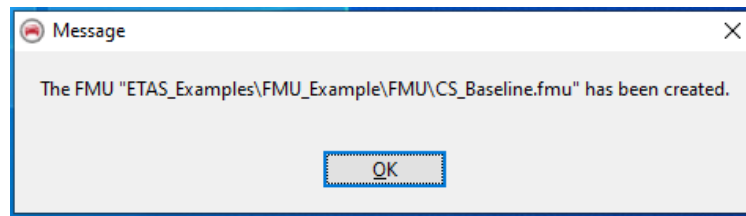

Figure 57. Confirmation message after generating FMU.
7. Click **Generate FMU** to generate the FMU for this setting. After the FMU files are generated, a confirmation message pops up (Figure 57).